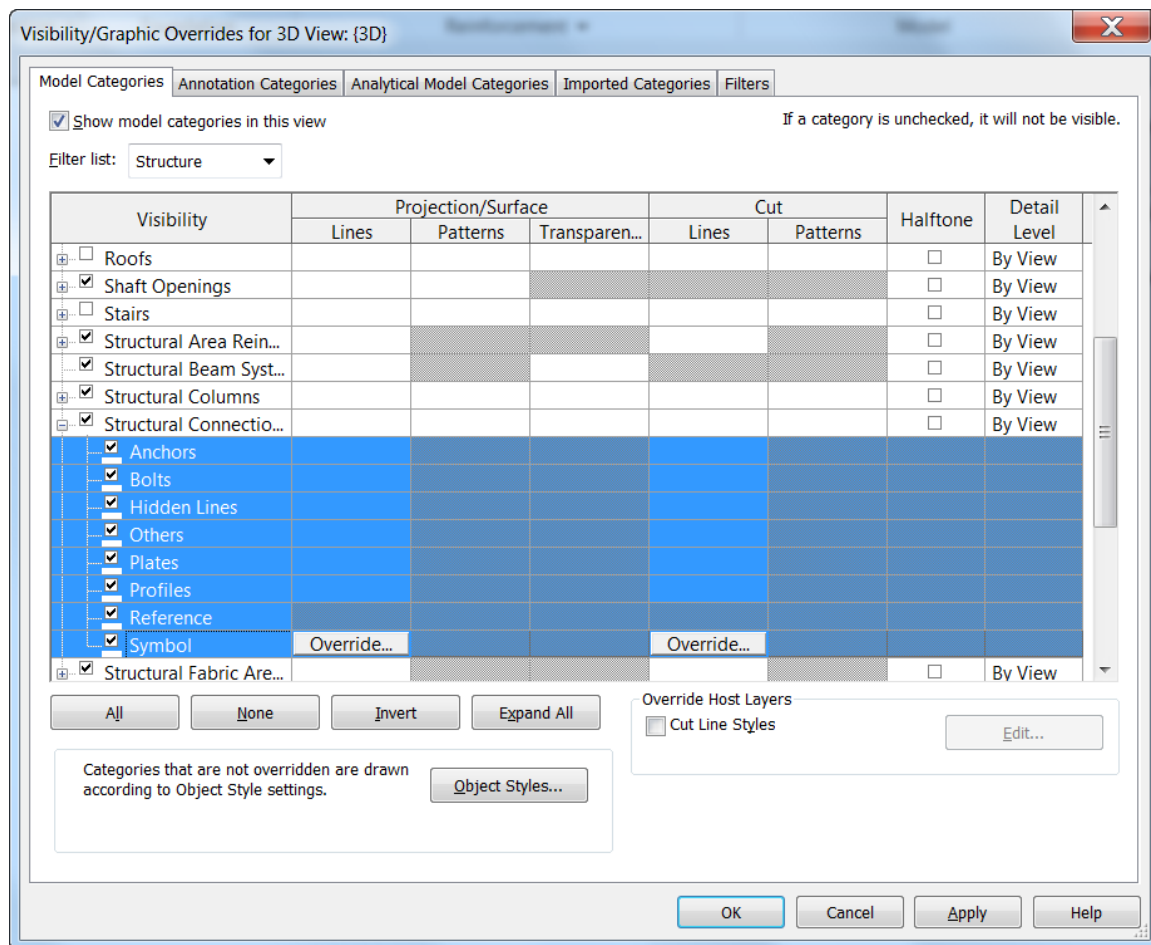

FIGURE 33: TURNING ON THE VISIBILITY OF THE CONNECTION ELEMENTS
2. Expand the **Structural Connections** category and select all the items in that category, as shown in Figure 33.